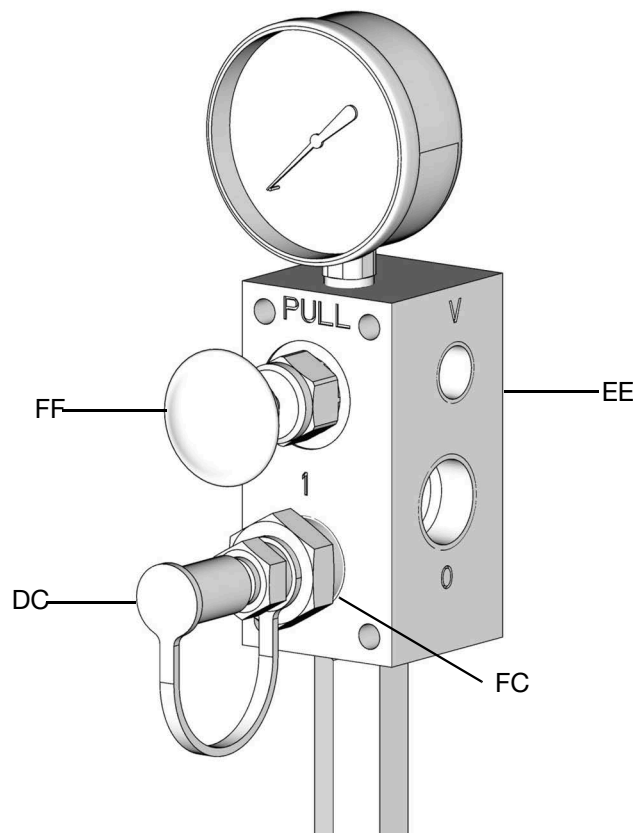

FIG. 15
3. Remove the dust cover (DC) from the fill coupler (FC) on the fill valve (EE) (FIG. 15).
- Connect the refilling line (GG) between the remote fill station pump (AA) and fill coupler (FC) port marked with an "I" (FIG. 15).
- Disconnect the refilling line (GG) from the fill coupler (FC) (FIG. 15).
- Replace the dust cover (DC) over the fill coupler (FC).